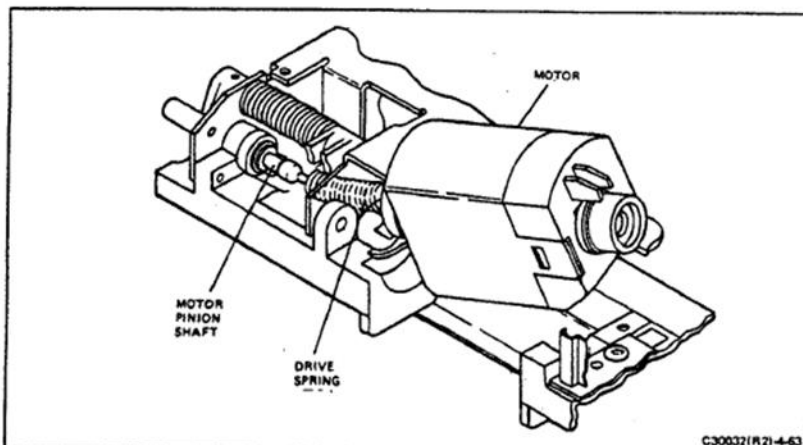

FIGURE 4-63 DRIVE MOTOR COUPLING COMPONENTS
20. Grasp the MCC holder with tweezers and, at the same time, raise the contact end of the motor up. Withdraw the motor coupling spring from the plastic coupling (see Figure 4-63).
11. Rotate the motor shaft so that the tang on the drive spring will mate with the slot in the coupling. Check the mounting clamps to see that they are swung aside to clear the motor mounts. Tip the motor to direct the end of the drive spring toward the coupling. (Again, refer to Figure 4-63.)